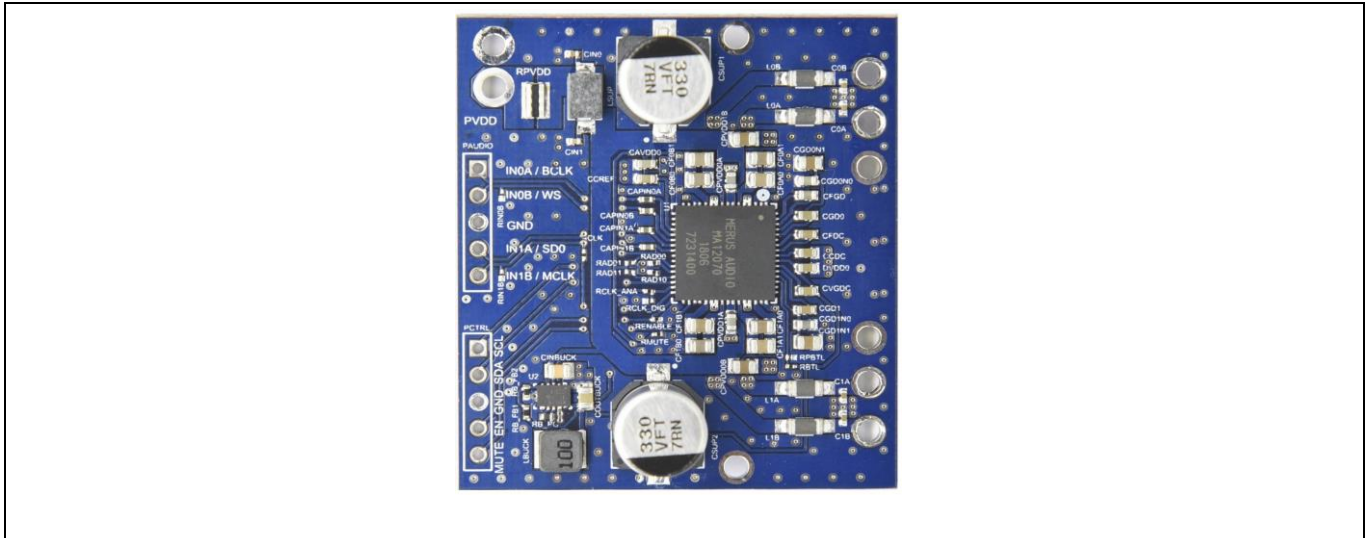

Figure 1 Reference board PCB
The reference board (RFB) is a reference and demonstration board for Infineon's MA12040, MA12040P, MA12070 and MA12070P amplifiers. See the board in Figure 1 with MA12070 mounted.
- Figure 1 shows the footprint and PCB size it takes. The board size is significantly reduced due to a small-sized EMI filter compared to a bulky LC filter.